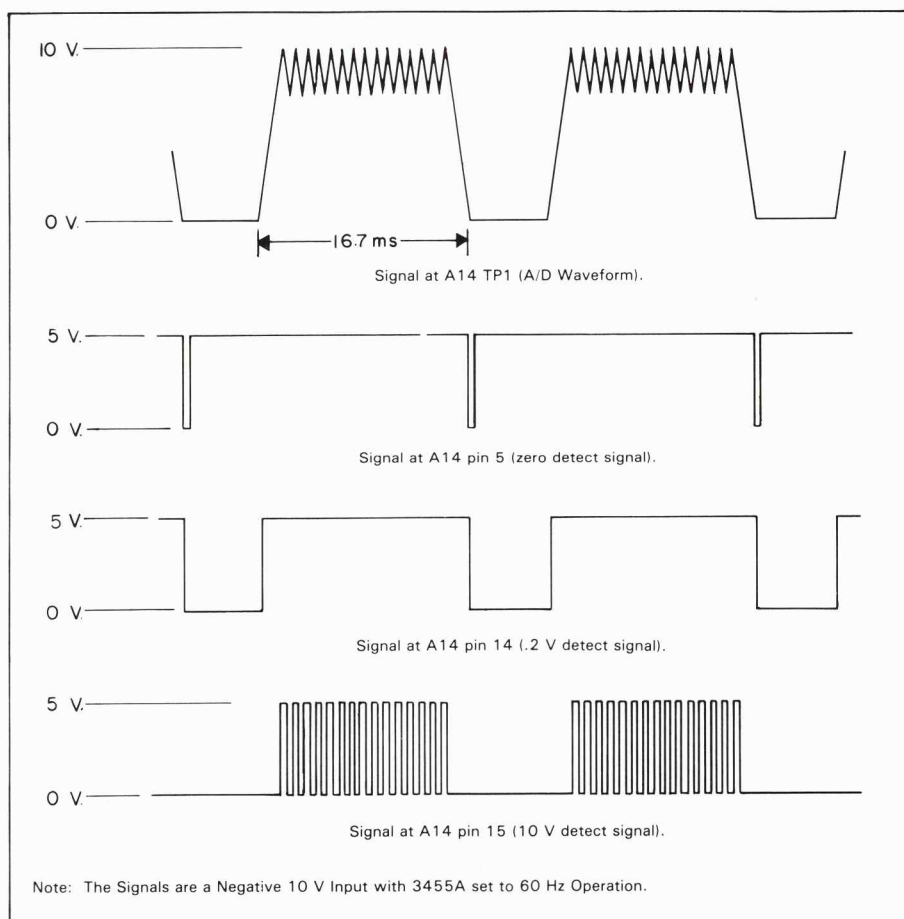

Figure 8-E-1. A/D Waveforms.
- With an oscilloscope measure the waveform at A10TP1. The waveform should look like top waveform in Figure 8-E-1.
c. Check for the correct operation of A14U5 and its associated circuitry. Since U5 and its associated circuitry is an absolute amplifier, the output of the amplifier (emitter of U6) should be the same as the signal at TP1. Therefore, pins 14 and 15 of the A14 board should also show the absolute value of the signal at TP1. The correct signals for a -10 V input to the 3455A are shown in Figure 8-E-1. If the signals at A14P1 pins 14, 15, and S are incorrect, troubleshoot the detect circuits.